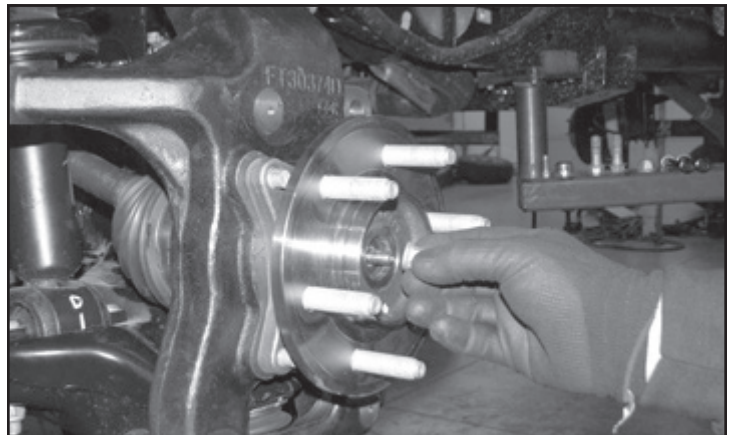

FIGURE 43 - STEP 48
48. Install the dust shield and torque to 14 ft-lbs. Install CV shaft nut and torque to 35 ft-lbs. Install the factory dust cover. **SEE FIGURE 43**